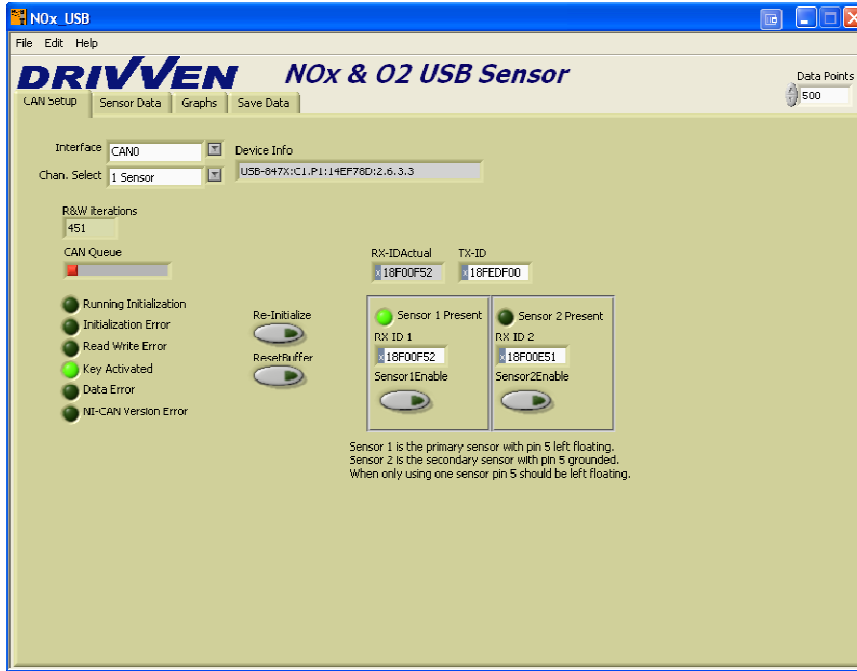

Figure 6 Stand Alone Executable CAN Setup Tab
The USB NO_x stand alone executable is broken down into 4 different tabs which are shown in Figure 6, 7, 8 and 9. The CAN setup tab contains all of the controls and indicators needed to get the system up and running. In order to get the program running correctly the only CAN setting that needs to be set is the interface. Setting up the correct interface is important and should be double checked by running Measurement and Automation Explorer. More directions on setting this up can be found below in the list of things to get the system running the first time. The RX-ID1, RX-ID2 and TX-ID should not be changed from their default values unless you completely understand the meaning and impact of the change. CAN queue is an indicator showing the number of CAN data frames coming in off the CAN bus from NO_x Sensor Control Modules. If the queue reaches 100% of the progress bar than CAN data frames are coming in faster than data can be calculated. This should not occur unless something is wrong.
4. Run Measurement & Automation Explorer (installed with the LabVIEW runtime engine and with NI-CAN 2.6). Under “My System” expand the “Devices and Interfaces” section. If your NI USB-8473 is plugged into an available USB port on your computer then it should be visible. Expanding the USB-8473 tree will show the properties of your device as shown in Figure 6. Right clicking on the port (highlighted in Figure 6) allows you to open up the port properties and change the interface name. Typically if you only have one CAN device with one port the interface name is “CAN0”.